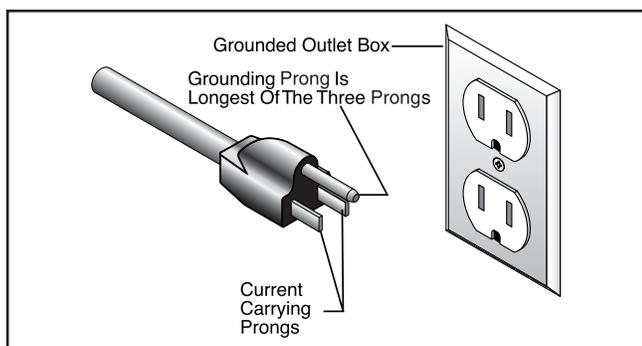

Figure 12. NEMA 5-15 plug and receptacle.
8. Install a NEMA 5-15 plug, as shown in **Figure 12**, on the power cord.